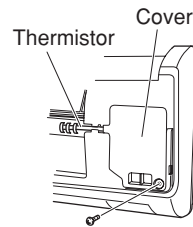
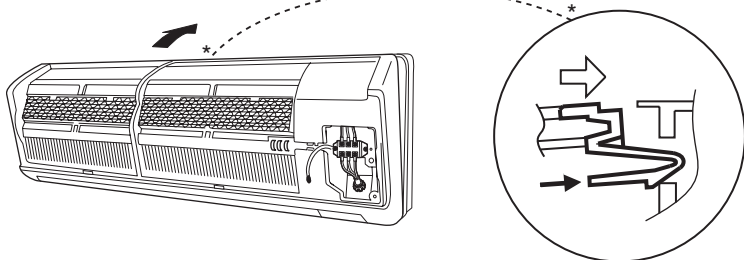

Fig. 17a
Fig. 18b
- (3) Remove the screw on the right side cover plate and open the cover. (Fig. 17a)
- (6) Use a standard screwdriver to push on the tabs to remove the grille. (Fig. 18b)
- (1) Reinstall the grille into the lower part while aligning its tabs on the upper part. (Fig. 18b) Insert the tabs in the slots and push the lower part of the grille back into position.
- (2) Make sure that the grille and frame are firmly fitted together by engaging the tabs.
- (3) Attach the thermistor on the grille. (Fig. 17a)
- (4) Close the cover and replace the screw. (Fig. 17a)